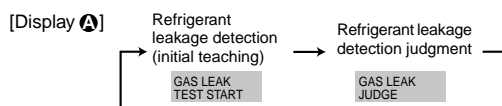

Fig. 8-2
- ② Press **CLOCK** button and select the [GAS LEAK TEST START] (Fig. 8-2)